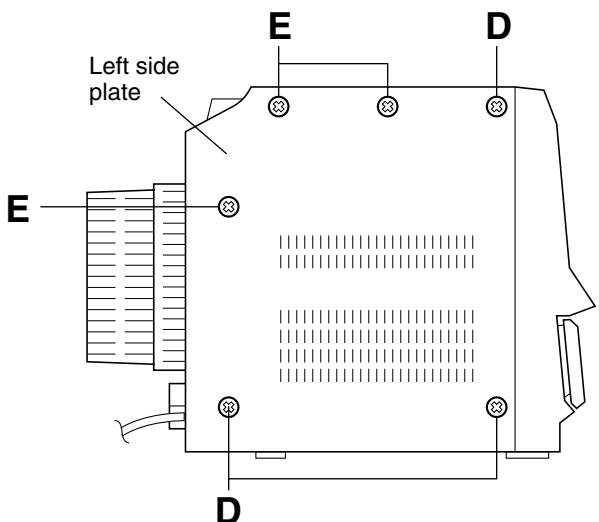

Fig.6
- Remove the left side plate according to its disassembly method. (See Figs. 6 and 7.)
(See Figs. 6 and 7.)
1. From the left side of the main body, remove the three screws **D** and three screws **E** retaining the left side plate. (See Fig.6.)